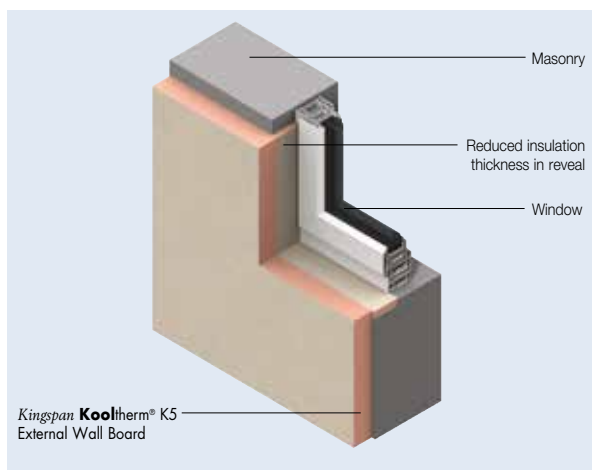

Figure 7
- Reveals should be designed to accommodate the 20 mm of **Kingspan Kooltherm® K5 External Wall Board** required to achieve an R-value of 0.6 m²-K/W, and the depth of the cladding system (see Figure 7).
- Care should be taken to install the specified thickness of insulation around reveals (see Figure 7).